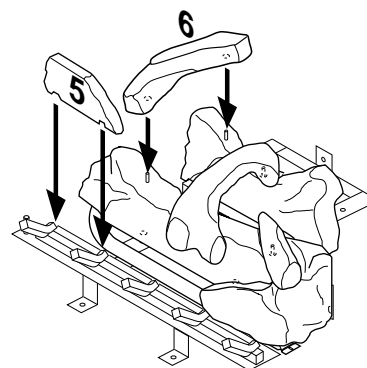

Figure 44 - Installing Logs No. 5 and No. 6
5. Place log #5 (base log) onto the front left part of the grate making sure the notches fit over the prongs of the grate. See Figure 44.
6. Place log #6 (left log) onto two pins on the left side of back and front log. See Figure 44.